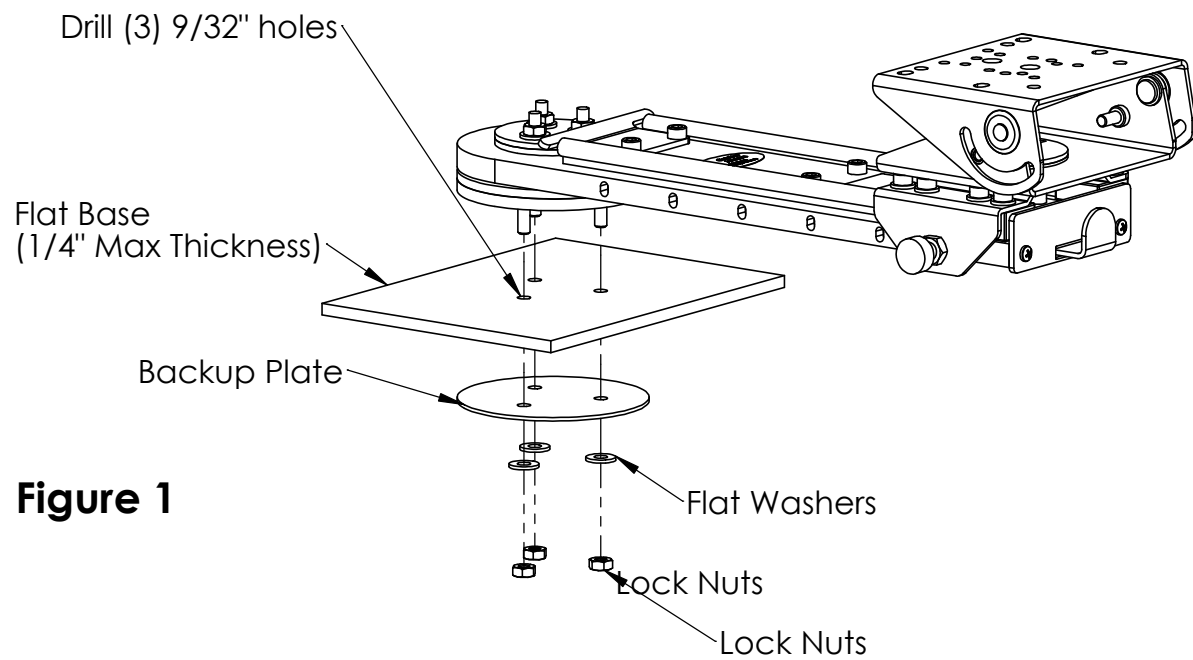

Figure 1
1. To mount on a flat base, drill three 9/32" holes in the base that will allow the 1/4-20unc studs that protrude down from the base to pass through. You can use the round backup plate (found in the hardware bag) as a pattern for the drilling the holes. Attach the 12" Locking Slide Arm to the flat base by inserting the studs through the holes. Attach the backup plate to the bottom side of the flat base with the flat washer and lock nuts provided in the hardware bag. (See Figure 1)